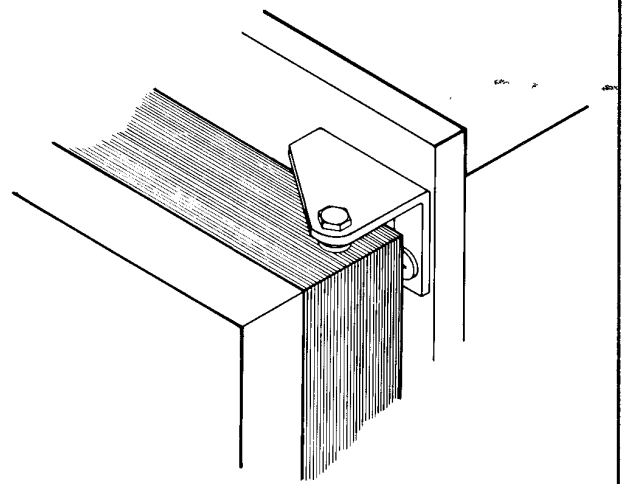

FIGURE 12
1. Unscrew and remove top hinge pin (Fig. 12 and 13).